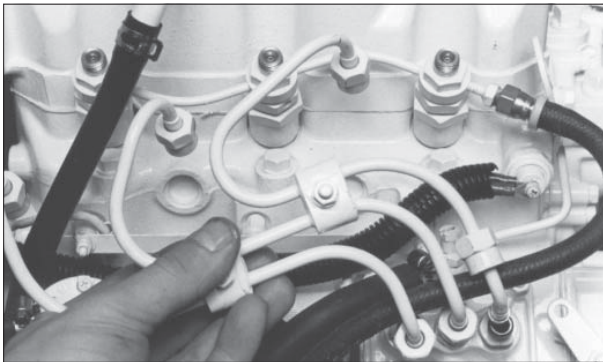

Figure 13: Remove delivery lines.
- c. Remove delivery lines by disconnecting from injectors and injection pump (Figure 13). Remove all lines as an assembly; do not remove the clamps. Cover the ends of the lines, the injector inlets and injection pump outlets to keep dirt out.